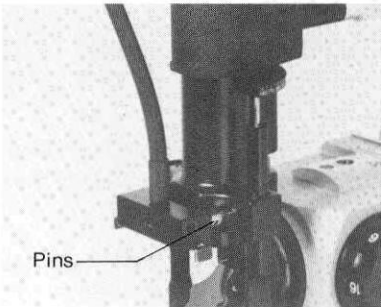

Fig. 63 -
(2) Attachment of the Background Illuminator
- (a) Insert the pins of the background illuminator into receptacles at the lower end of the illumination section. (See Fig. 63)